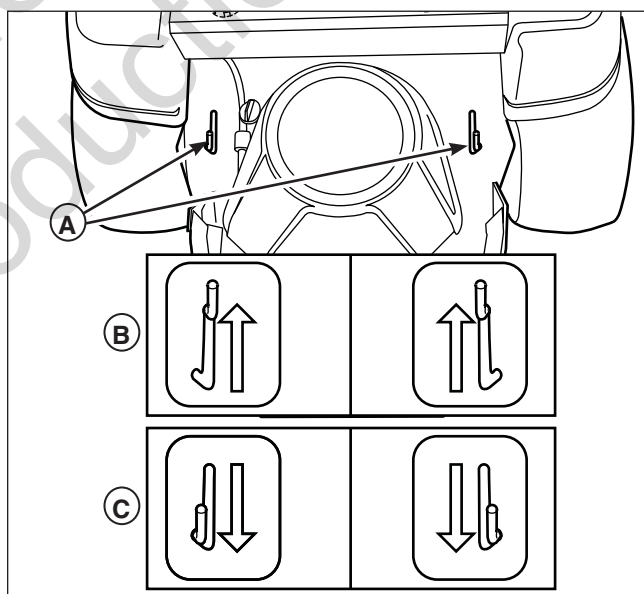

Figure 2. Transmission Release Levers
2. Locate the transmission release levers (A, Figure 2) by the rear wheels of the unit.
3. Pull both levers back and out so that they lock in the disengaged (free-wheel) position (C).